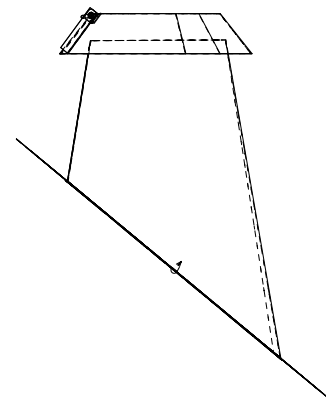

FIGURE 23 **STORM
8. Place the storm collar over the chimney and flashing (see Figure 23). Seal the collar to the chimney with silicone (high temperature not required).